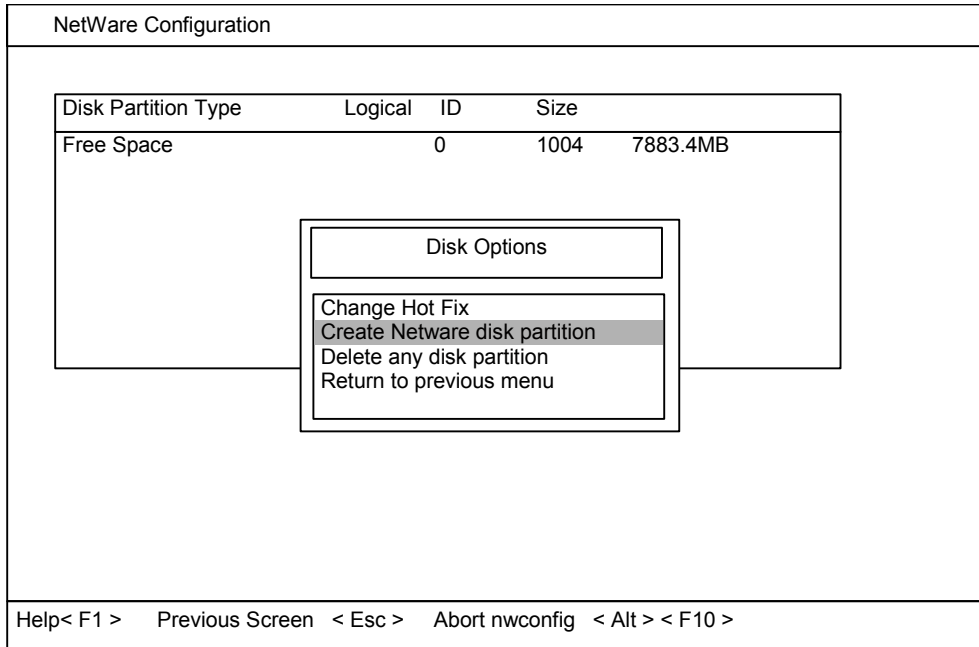

Figure 3.5 Starting to Create a Disk Partition
6. On the Disk Options screen (see Figure 3.5), select **Create NetWare disk partition**, and press **Enter**.